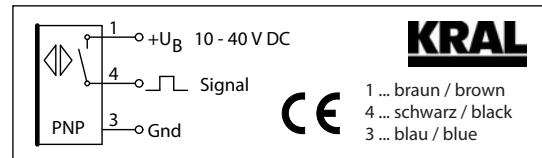

Fig. 33 Terminal diagram BEG 64
4. Fasten and connect the amplifier **627.1**. Observe the terminal diagram, see Fig. 33, page 43.